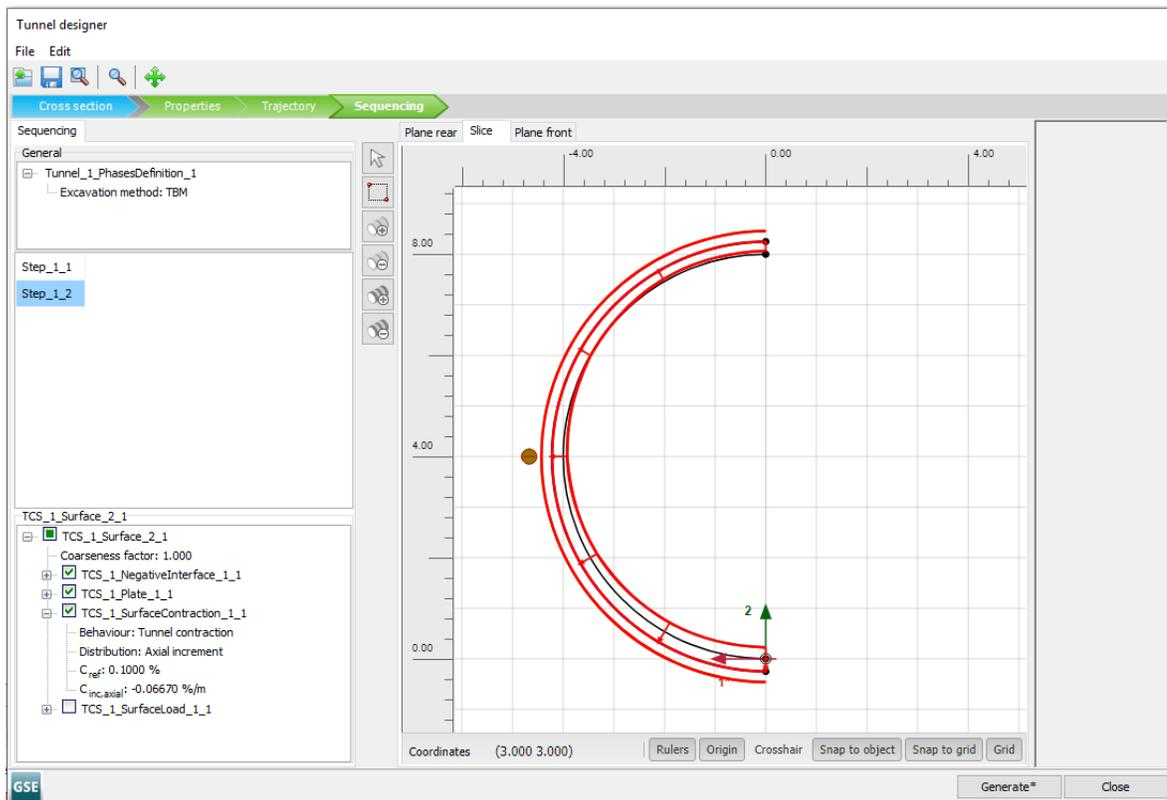

Figure 79: Slice tabsheet in the *Tunnel designer* for Step_1_2
- Go to the **Slice** tabsheet, select the outer surface and set $C_{ref} = 0.1\%$, see Figure 79 (on page 106).